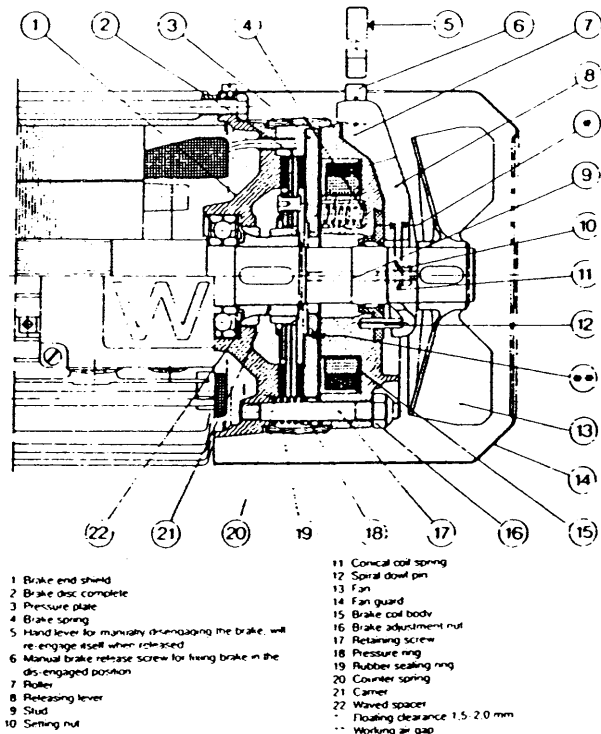

Fig.25: Setting of Brake
The hand release mechanism can be easily retrofitted onto the brake. Obtain the kit from our plant and assemble the parts as shown in Fig. 25. The studs (9) should be screwed tightly into the stationary disc using Loctite.